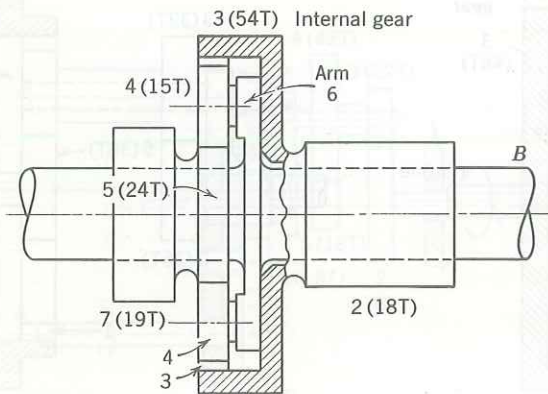

FIGURE 7.37
7.22. A planetary gear train for a two-speed aircraft supercharger drive is shown in Fig. 7.37. Gear 2 is driven by a 63-tooth gear (not shown) which operates at 2400 rpm. At high speed, gear 2 connects to the supercharger shaft through additional gearing. At low speed, gear 7 is held stationary and shaft B is connected to the supercharger shaft with the same gear ratio as was used between gear 2 and the supercharger shaft. If the supercharger operates at 24,000 rpm at high speed, calculate the low-speed value.
- 7.35. For the planetary gear train of Fig. 7.37, calculate the maximum number of planets possible without overlapping and the numbers of equally spaced planets that can be used in the train.